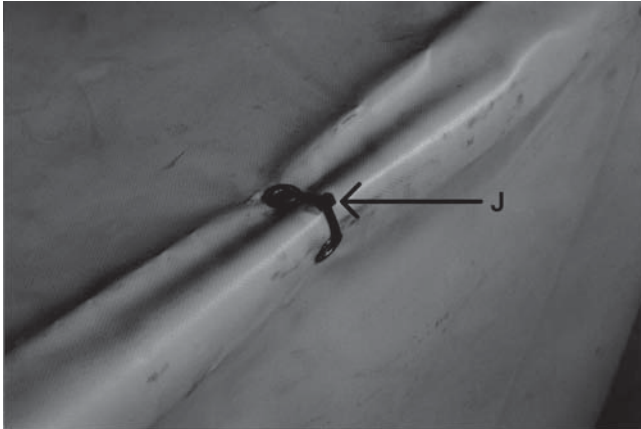

**Figure 6**
8. Attach the Front Cover Frame (H) and the Rear Cover Frame (I) to the main cover frame using 3 M10 x 100mm bolts, six M10 x 25mm bolts. Do not tighten the hardware until both frames are fully installed. (See **Figure 6.**) Only front frame folds, rear frame is fixed in place.